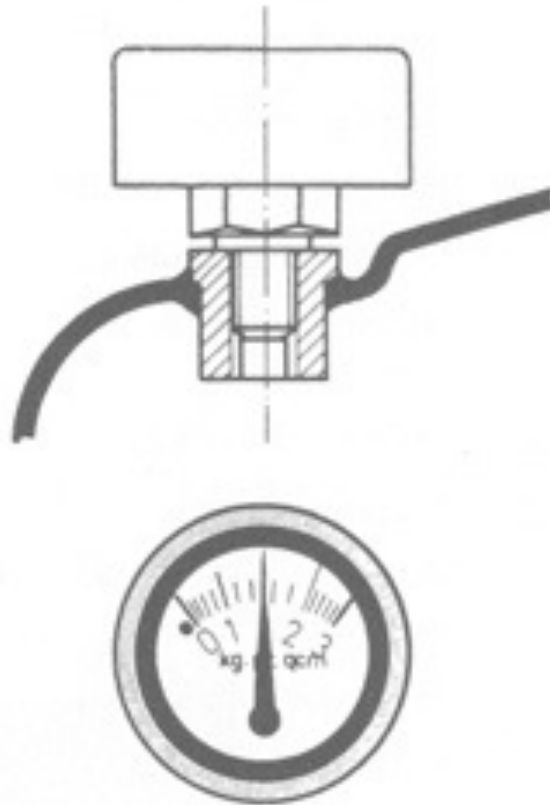

Fig 2
15. The **pressure gauge** (Fig. 2) indicates the pressure in the tank. The pressure should be maintained at 1.5 bar (kg/cm2) to ensure satisfactory operation of the device.